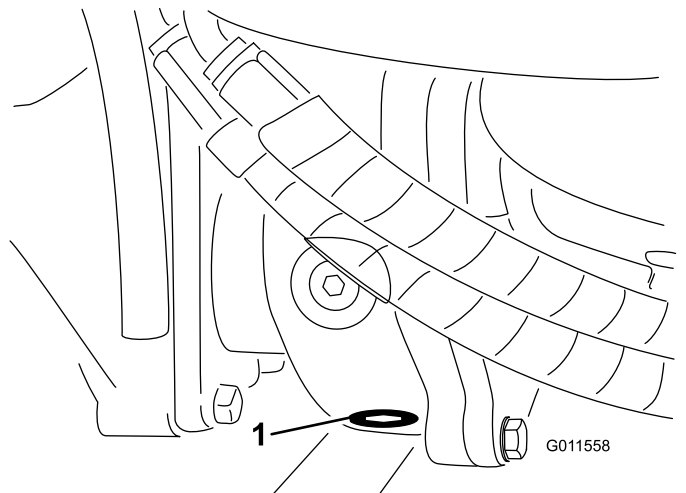

Figure 72
5. Clean the area around the drain plug at the bottom of the gear box (**Figure 72**).